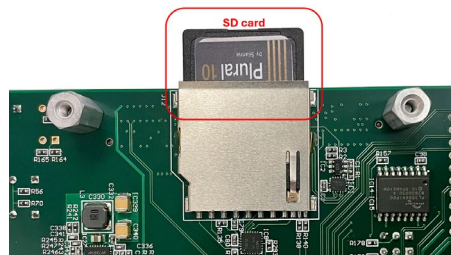

Figure 4: The SD-card location on the ZedBoard.
Before powering up, the user will be required to load the provided SD card correctly into the ZedBoard (see Figure 4). The SD card holds the firmware that runs on the ZedBoard on-board processor to perform data capture from the ADC board, display the Graphical User Interface (GUI), as well as communicate with the chip during testing.
- Ensure the ZedBoard's power switch is in the OFF position before proceeding (see Figure 4).